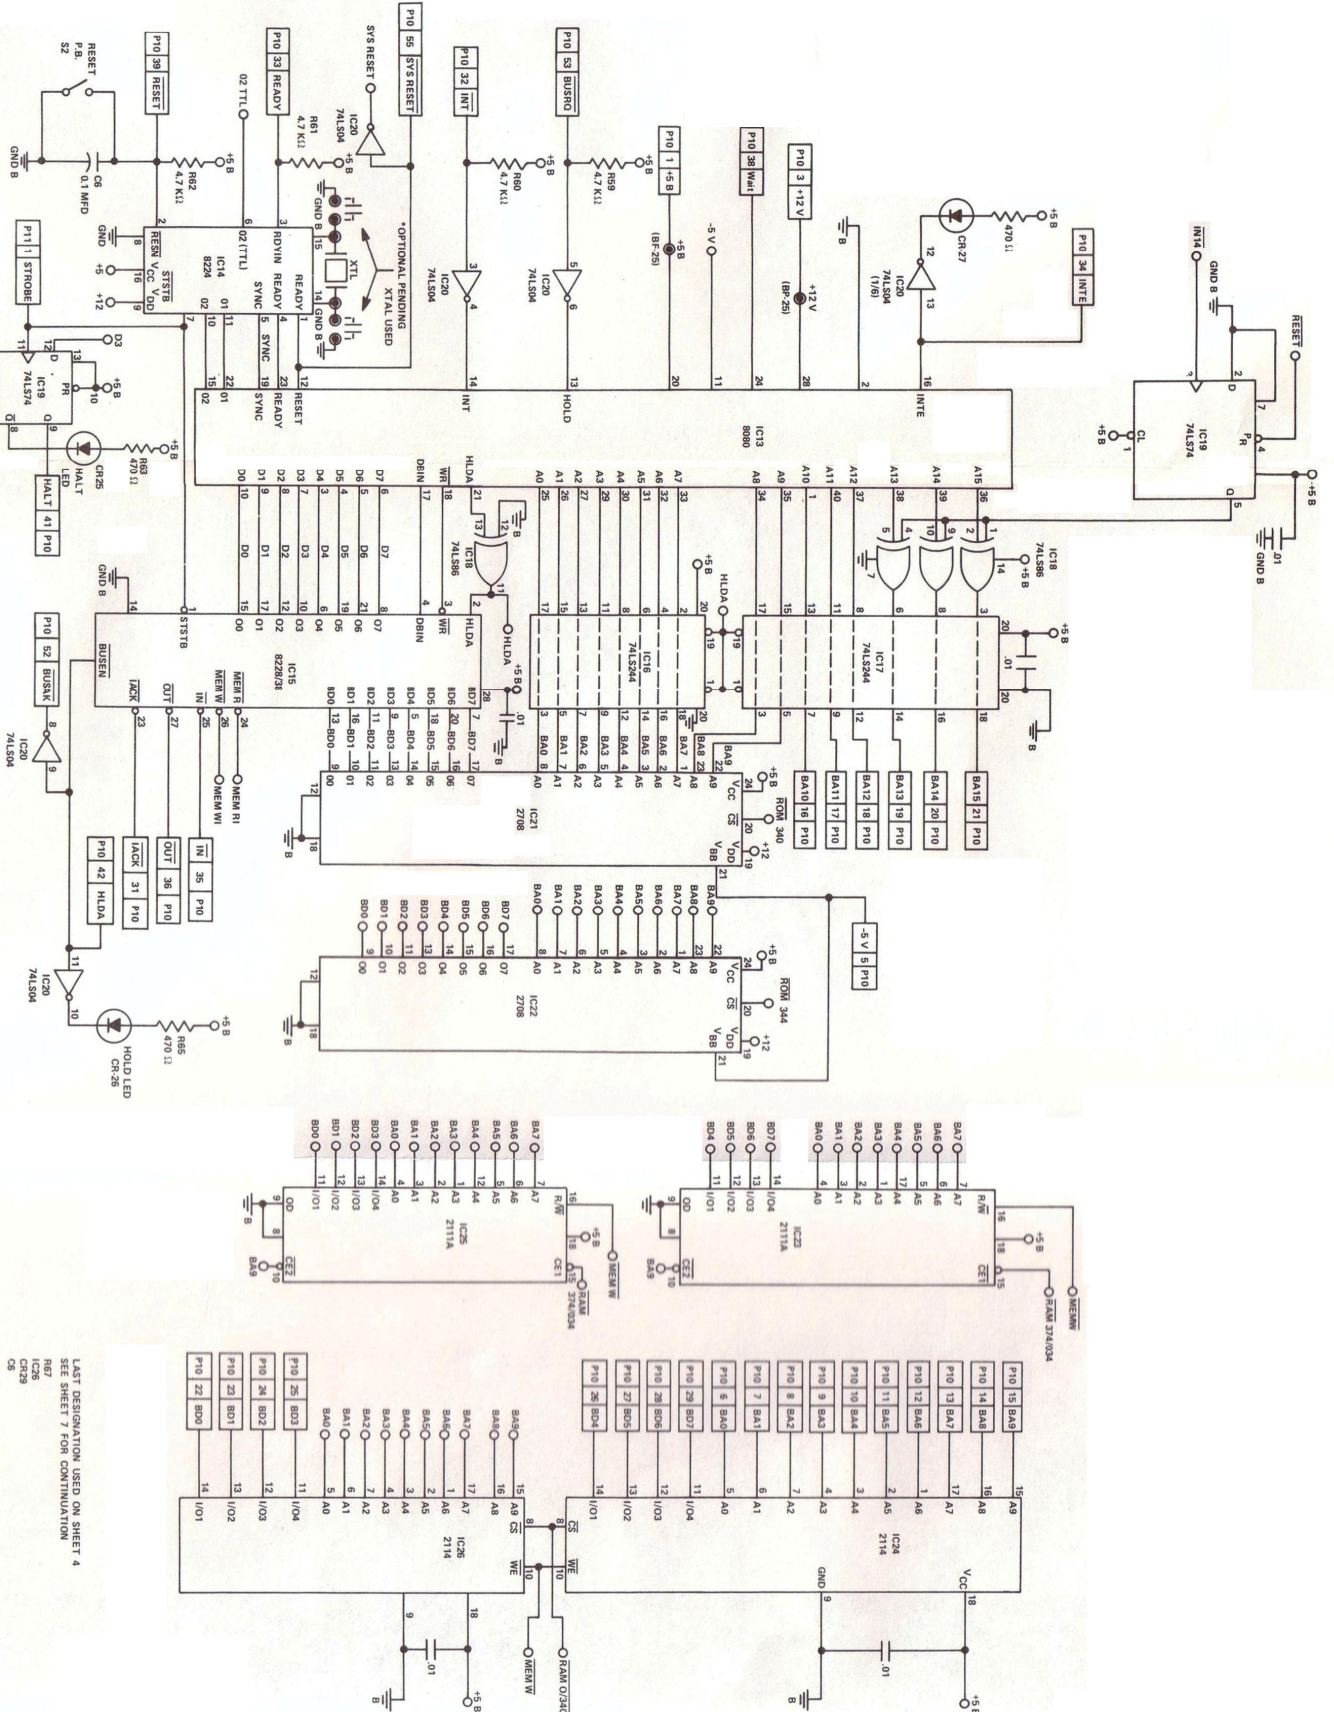

Figure 4. CPU and Memory Schematic Diagram
Step 1. Locate and identify the following pins on the 8080 as shown on the *CPU and MEMORY* schematic diagram (figure 4). Compare your answer with the Answer Key at the end of this lab.
Step 2. Locate the 8228/38 (IC15) on the *CPU and MEMORY* schematic diagram (figure 4). This is the SYSTEM CONTROLLER for the 8080. Now locate and identify the following pins on this IC. Compare your answers with the Answer Key at the end of this lab.
*Question.* Which IC contains the low-order nibble (bits 0 through 3)? \_\_\_\_\_ (26)
Step 4. Locate ICs 16 and 17 on the *CPU and MEMORY* schematic (figure 4).
Study the schematic diagrams shown in figures 4 and 5 and see if you can trace the various connections on the printed circuit board (the MMD-2).